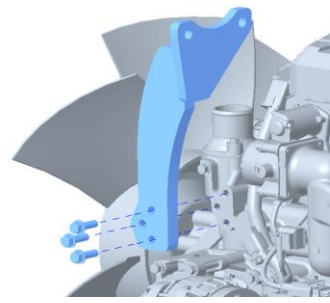

Figure 9
8. Loosely assemble the ATD mount bracket (11) near intake fan side as shown in the figure 9 using M10X25 bolts (21).